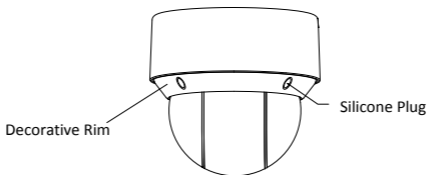

Figure 2-8 Remove the Silicone Plugs
1. Remove the four silicone plugs on the decorative rim as shown in Figure 2-8, and you can see four flange screws in the decorative rim.